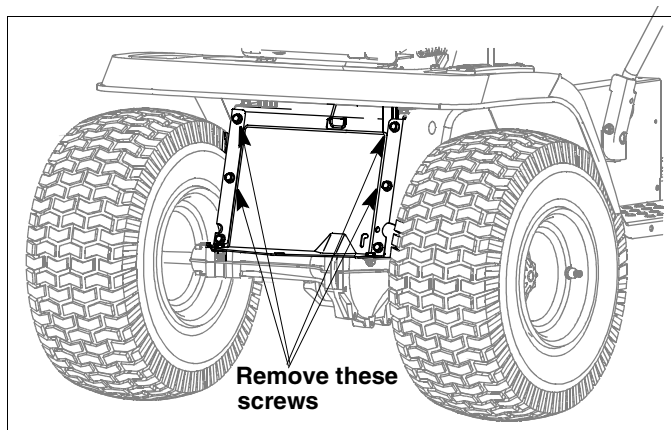

Figure 2
- Remove the top four self-tapping screws from the rear of the lawn tractor. See Figure 2.
- Secure the Catcher Support Bracket to the tractor frame with two self-tapping screws removed earlier. Refer to Figure 2. Repeat on the left hand side using the LH Catcher Support Bracket (Ref. No. 4).